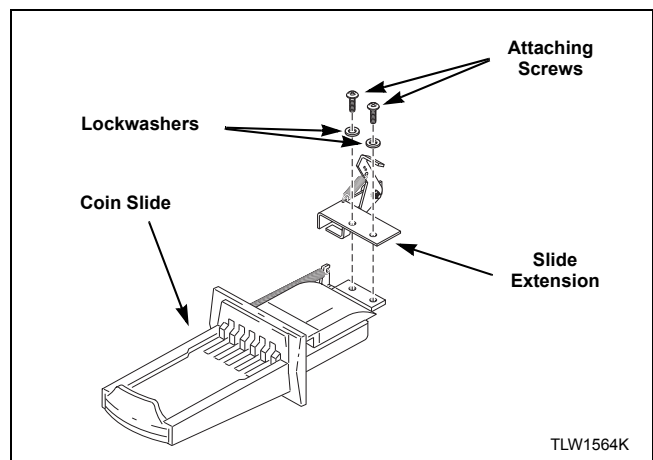

Figure 26
1. Install slide extension onto top of coin slide using two remaining screws and lockwashers. Refer to *Figure 26*.
3. Install slide extension onto top of coin slide using two screws and lockwashers. Refer to *Figure 26*.